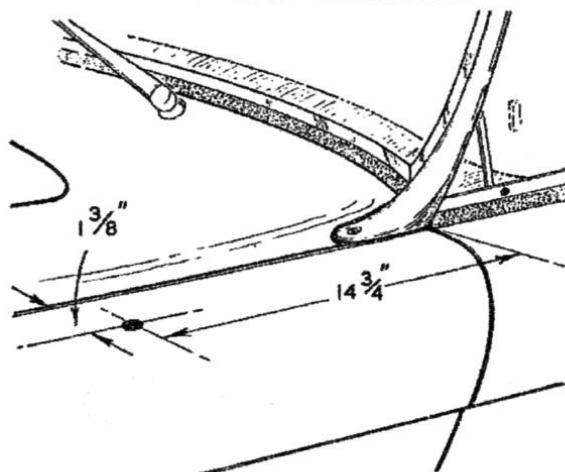

Fig. 1.
1. Temporarily remove forward air cleaner and drill a $\frac{7}{8}$ " dia. hole in the wing on the left hand side of the vehicle to the dimensions given in Fig. 1.